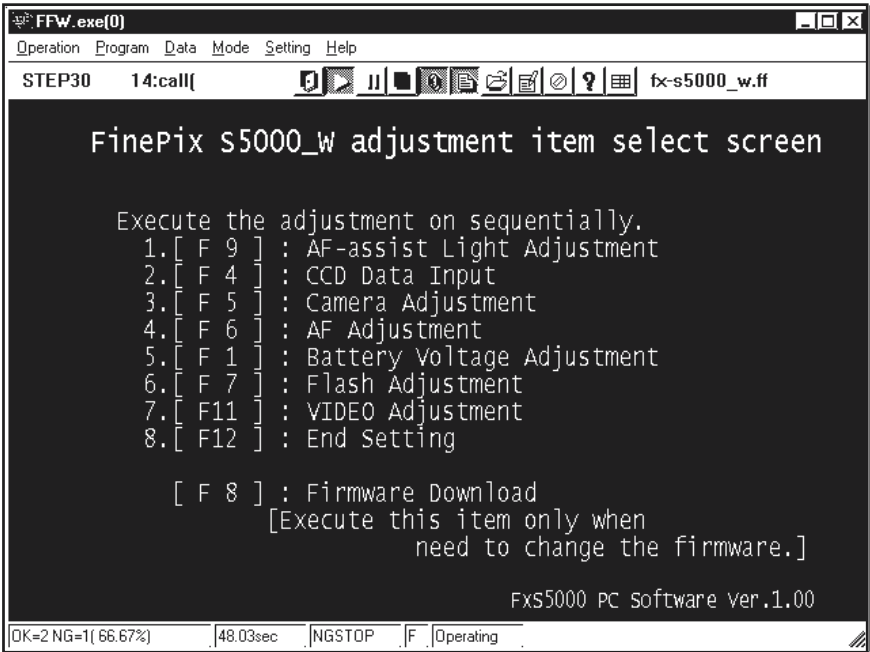

Fig.5
---> The [Adjustment Items Select Screen (Fig.5)] appears.
Select [F9] from the [Adjustment Items Select Screen (Fig.5)]. (press [F9] on the PC keyboard)
---> The system returns to the [Adjustment Items Select Screen (Fig.5)].
Select [F4] from the **[Adjustment Items Select Screen (Fig.5)]**. (press [F4] on the PC keyboard)